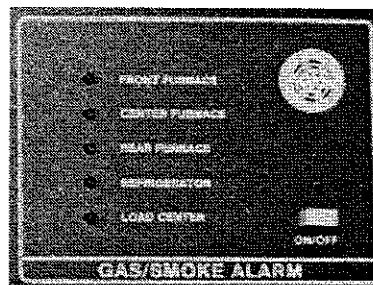

Figure 3-16. Gas/Smoke Alarm
The gas/smoke alarm, figure 3-16, is a gas leak detector designed to sense dangerous concentrations of LP gas or carbon monoxide within the coach. There are four (4) sensors mounted at floor level (LP gas is heavier than air) for the three furnaces and the refrigerator. One sensor is located above the 120 volt ac distribution panel (load center) to monitor carbon monoxide. Carbon monoxide, of course, is the most deadly of the products of combustion. It will provide an alert in the event of a short circuit at the load center.